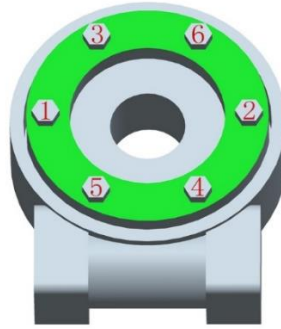

Figure 2.3.1
- Tighten the bolts and washers crosswise, tightening order is shown in Figure 2.3.1. Tighten all the bolts diagonally to 30% tightening torque. Then tighten the bolts repeatedly and diagonally to 50% tightening torque. Finally, tighten the bolts to 100% tightening torque.